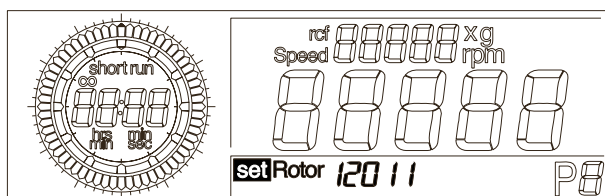

Fig. 5.14: Preselection of a rotor
- Turn the left rotary knob until "set" appears in front of the option "Rotor" on the display (Fig. 5.14).